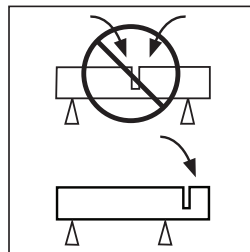

FIG. 7
- If possible support the workpiece in such a way that it is possible to predict what will happen, and that the cut will remain stable and open while cutting. **(FIG. 7)**